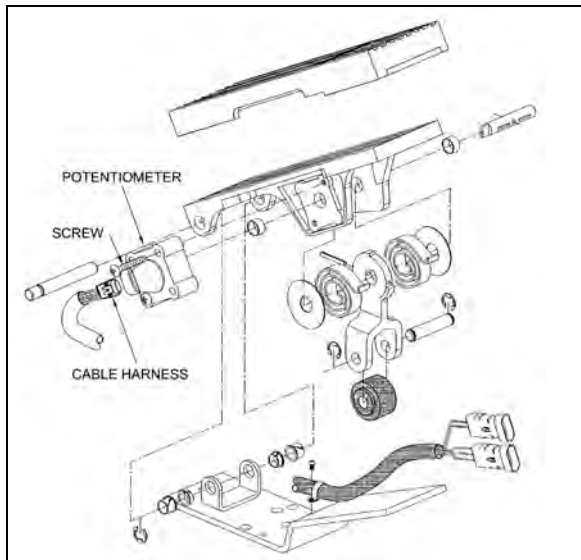

FIGURE 31: ELECTRONIC FOOT PEDAL ASSEMBLY 03035
3. Discard potentiometer (Figure 31).
potentiometer has bottomed out in housing. Reinstall screws (Figure 31) and tighten just enough to secure potentiometer lightly.